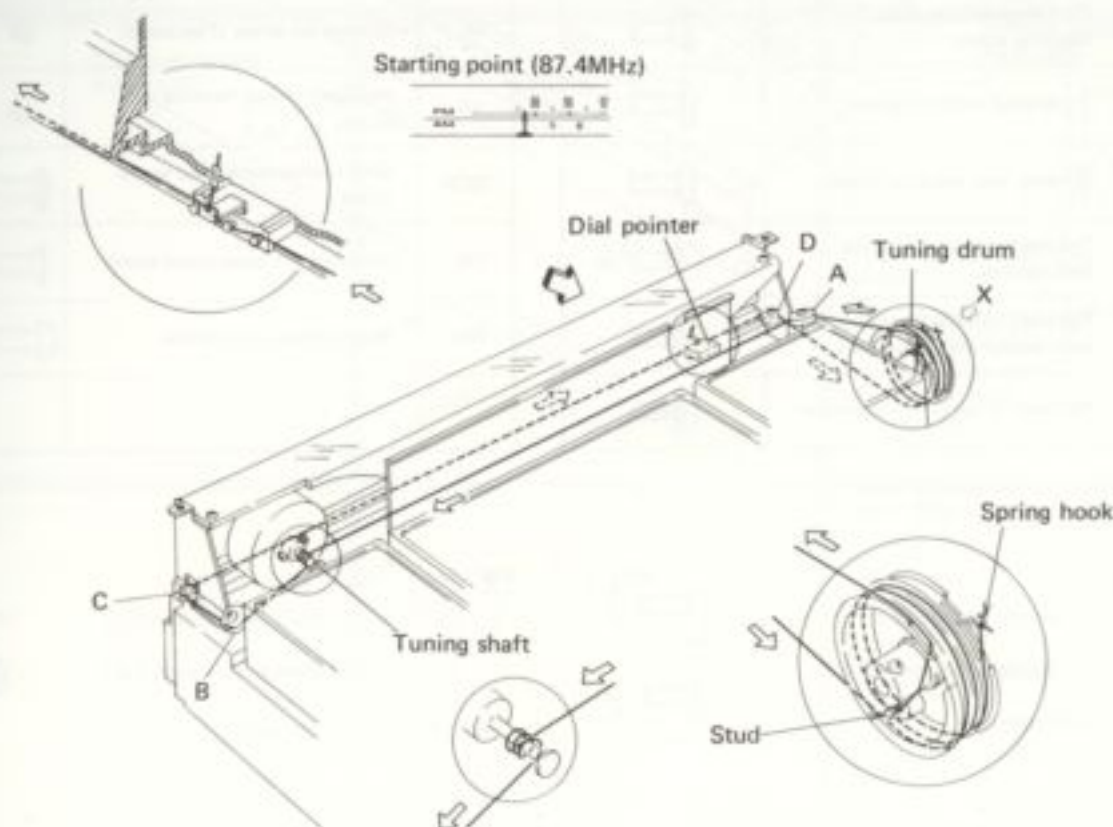

Fig. 37
3. Turn tuning drum fully clockwise (as viewed from X direction in Fig. 37).